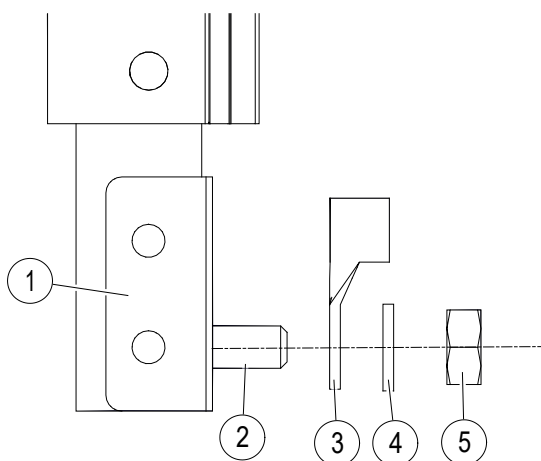

Fig. 19: Screw on crimping cable lug
- Screw the crimping cable lug onto the bolts (Pos. 2) of the line feed connector (Pos. 1) with spring washer (Pos. 4) and hexagon nut (Pos. 5) (see Fig. 19).